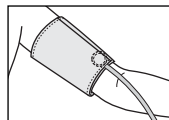

Fig. 10
8. Place stethoscope head so that it was located in depression, somewhat higher than elbow bend (Fig. 10).